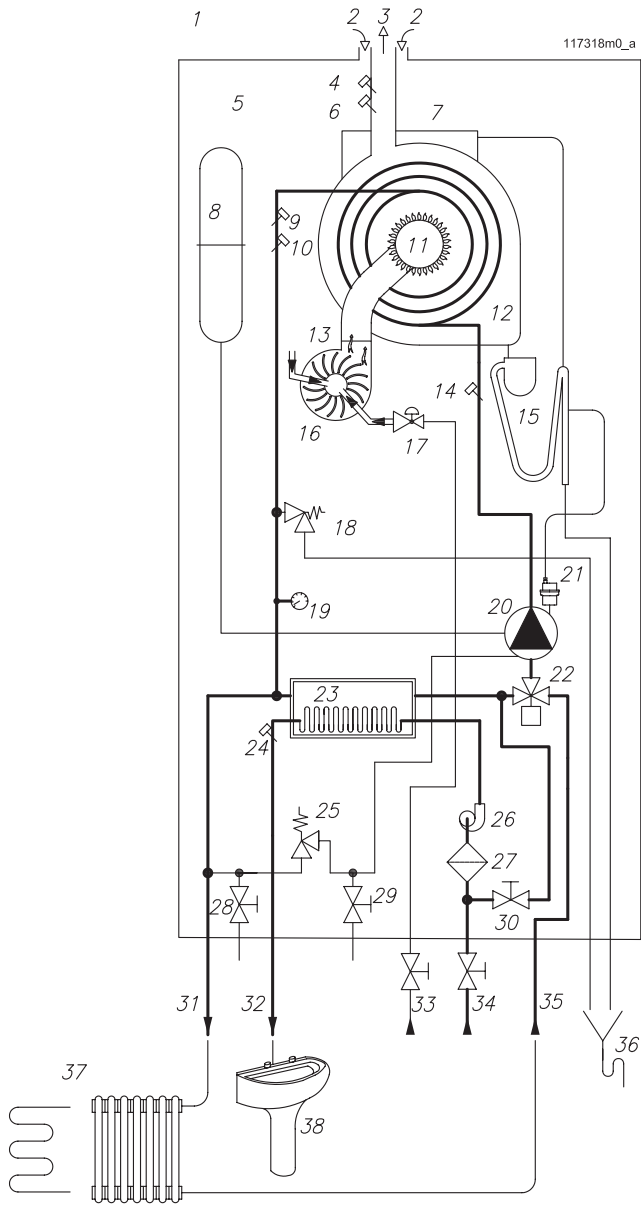

Figure 4.1 - Hydraulic layout
Key for figures 4.1, 4.2, 4.3:
A) - MYDENS -- "P". With this boiler it is possible to realise a plant for the production of instantaneous domestic hot water and a central heating plant with the heating elements operating at a temperature between 30°C and 80°C. An example of this type of plant is given in fig. 4.1.